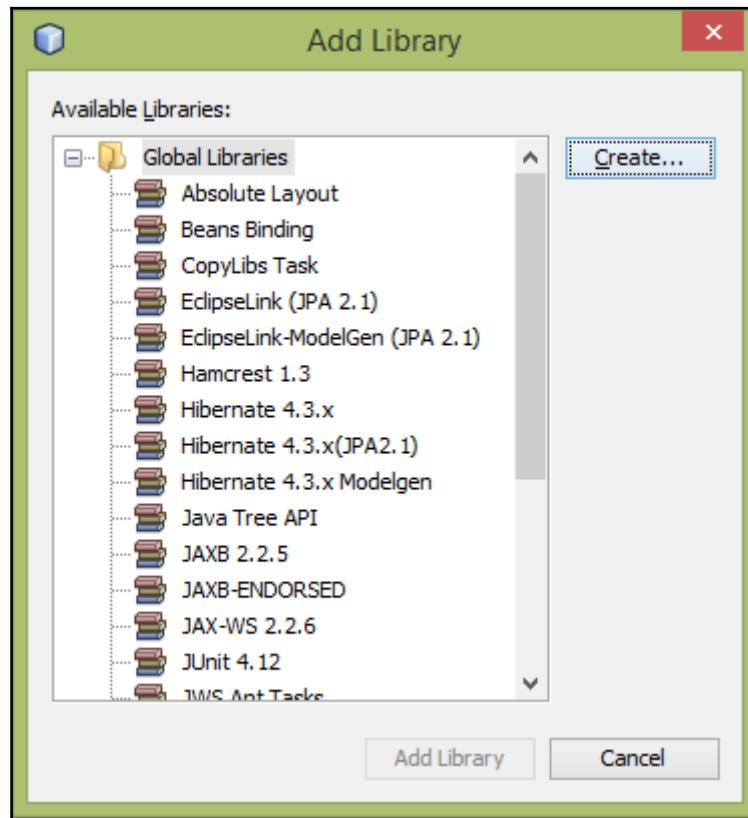

Figure 7-5: Add Library
1. In the **Add Library** dialog box, click the **Create** button (Figure 7-5):